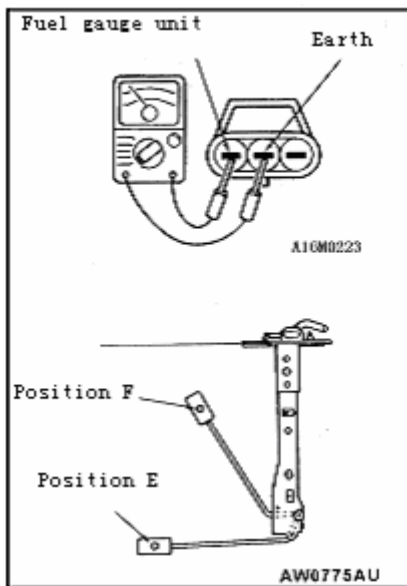

Fig 20-65
- ① Basic resistance of fuel gauge unit
- a、When folat of fuel faufe unit is in position F and E,ensure that resistance between fuel gauge unit terminal and earth terminal is within standard value (as Fig 20-65)。